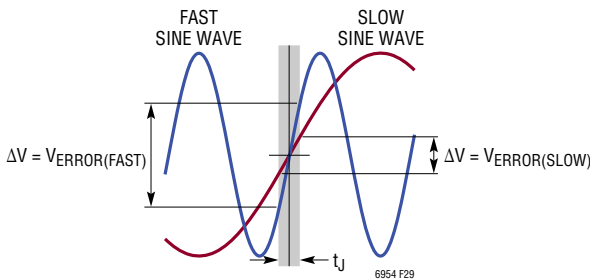

Figure 29. Fast and Slow Sine Wave Signals Sampled with a Jittery Clock
Degradation of the SNR due to sample clock jitter only occurs if the input signal is slewing. If the input signal is stationary (DC), then it does not matter when in time the sampling occurs. Additionally, a faster slewing signal yields a greater error (more noise) than a slower slewing signal. Figure 29 demonstrates this effect. Note how much larger the error term is with the fast slewing signal than with the slow slewing signal. The conclusion is to maintain the data converter’s SNR performance, digitization of high input frequency signals requires a clock with much less jitter than applications with lower frequency input signals.